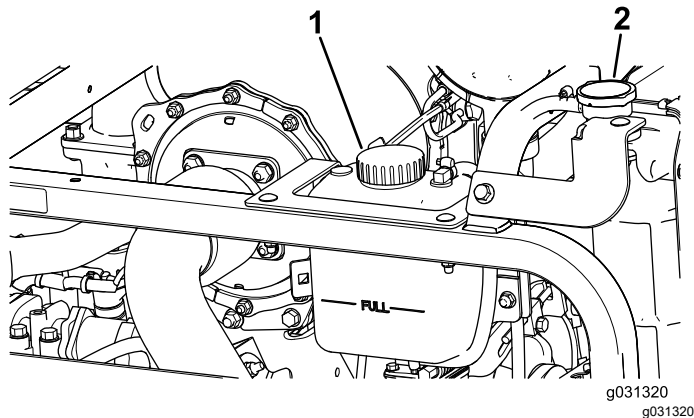

Figure 85
1. Carefully remove the radiator cap and expansion-tank cap (Figure 85).
2. Check the coolant level in the radiator (Figure 85).